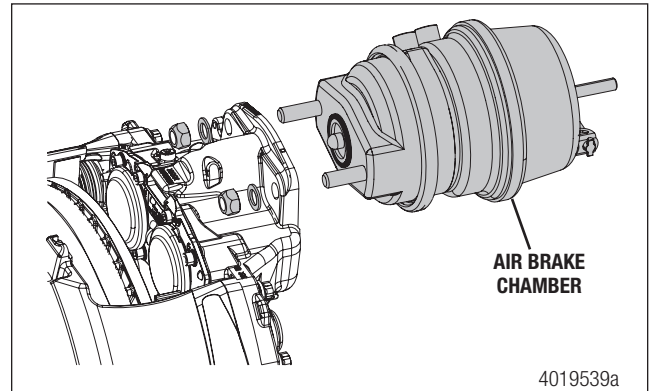
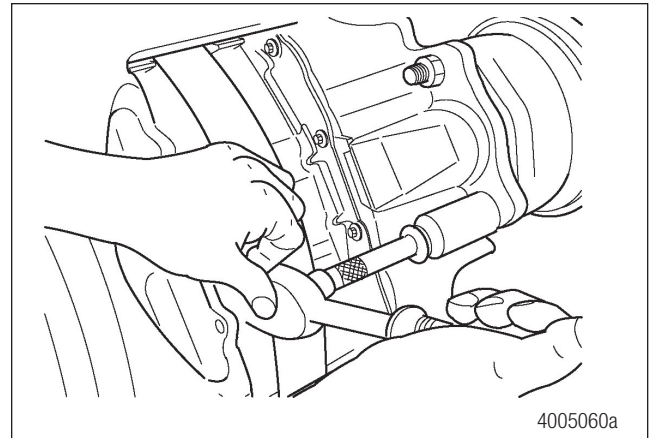

Figure 19
Figure 20
13. Install the air chamber on the caliper assembly, making sure the push rod is properly seated in the pocket in the caliper aperture. Install the original washers and nuts on the studs, then tighten to an initial torque of 59-75 ft-lb (80-100 Nm) and final torque of 133-155 lb-ft (180-210 Nm). Figure 19 and Figure 20.